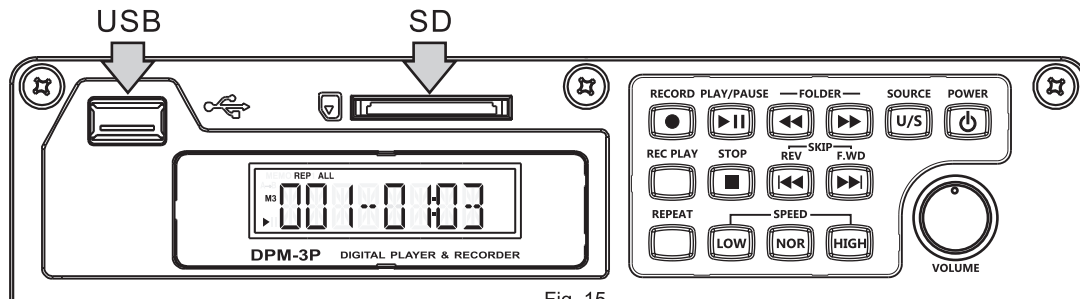

Fig. 15
(A) Media Slots. Fig. 15:
- (1) USB Disk: Insert USB 2.0 into the USB port for playing MP3 / WMA / FLAC / APE / WAV / M4A / AAC / OGG files.
- (2) SD Card Reader: Insert a SDHC card with gold contacts facing up and label facing down. Press it again to pop out.
- (3) Format USB and SD card before playback. Format standard is FAT.
- (4) Press SOURCE Mode button Ⓐ8 to select USB or SD card. USB plays first prior to SD card.
- (5) NO DISK displays when it is unable to detect or read a media source.